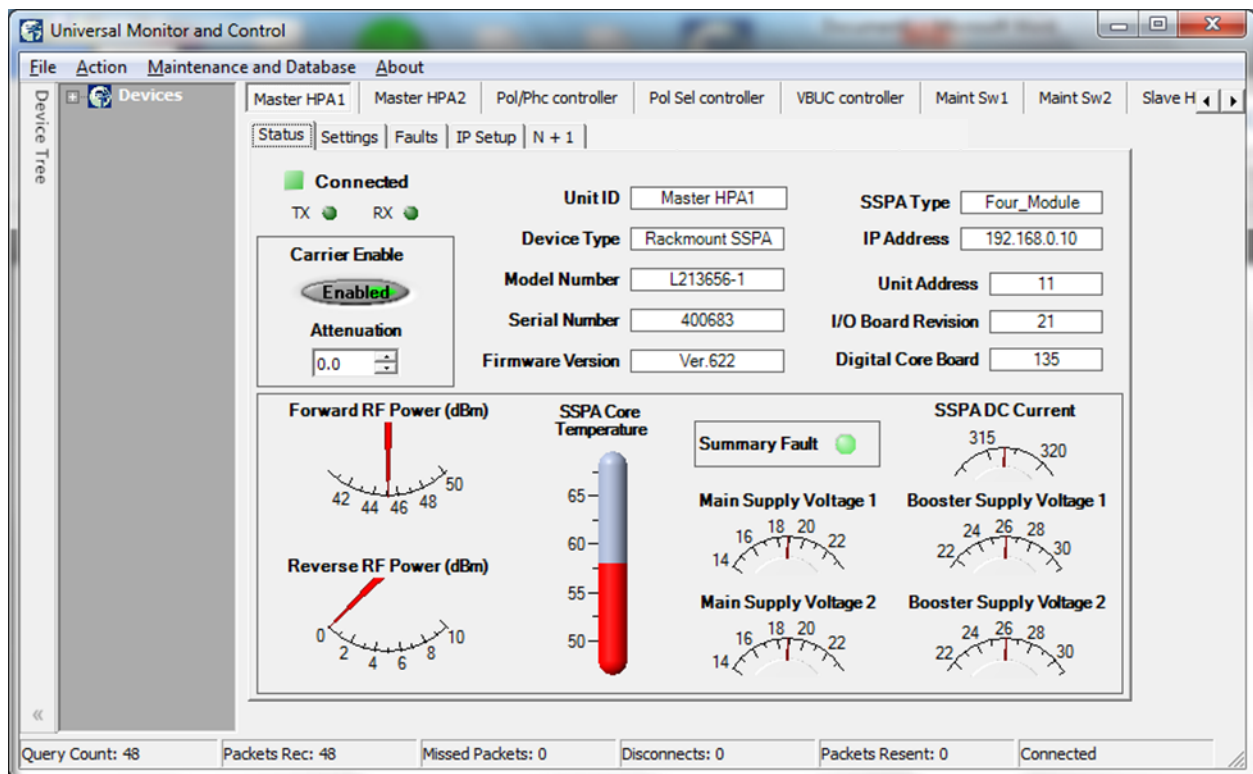

Figure 7-10: Status Window, Outdoor SSPA Controllers
7. Click on the [Create] button. The Status window for the newly added unit will appear. See **Figure 7-10**.